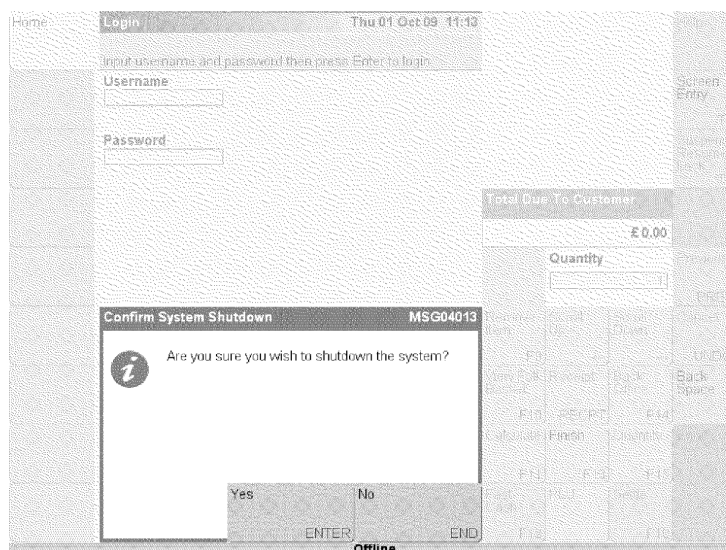

Figure 11
When the display changes to below (Figure 11) press Shutdown (84).